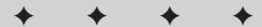

Figure 13-1: Select a report category from the Reports dialog box.
1. Choose View ⇨ Reports to open the Reports dialog box, as shown in Figure 13-1.